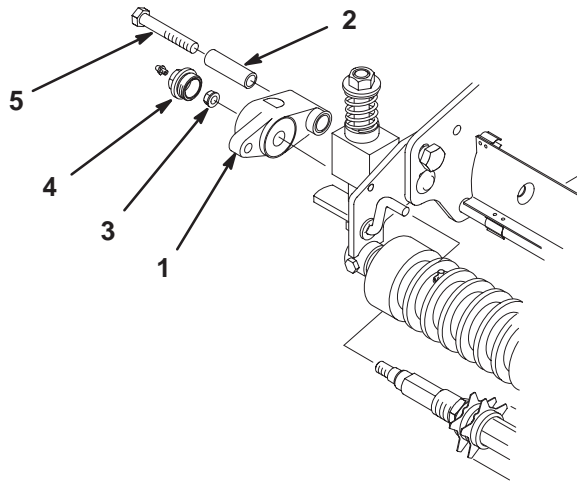

Figure 21
2. On the opposite end of the cutting unit, remove the cap plug w/grease fitting, locknut retaining the reel shaft to the bearing housing, capscrew, and spacer retaining the bearing housing to the cutting unit (Fig. 21). Remove the groomer reel assembly.